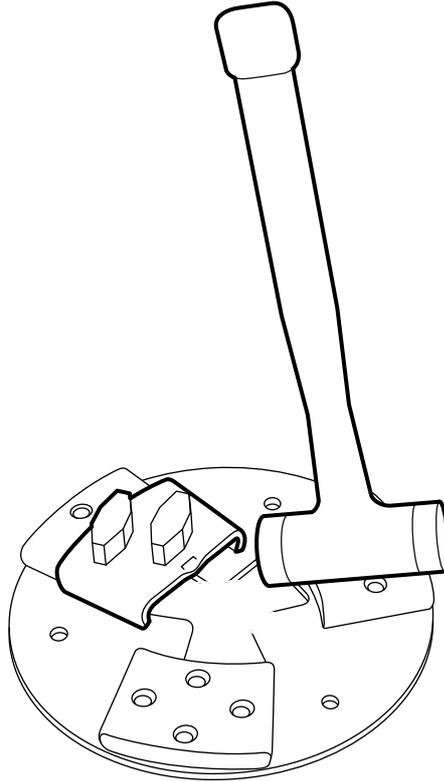

Figure 4-3 Locking grinding tools
2. Lock the grinding tool into the tool holder by giving it a few light taps with a rubber hammer, see Figure 4-3 on page 17.
3. Lock the grinding tool into the tool holder by giving it a few light taps with a rubber hammer - see Figure 4-3 on page 17.